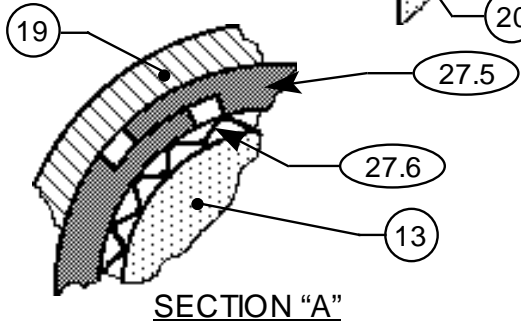
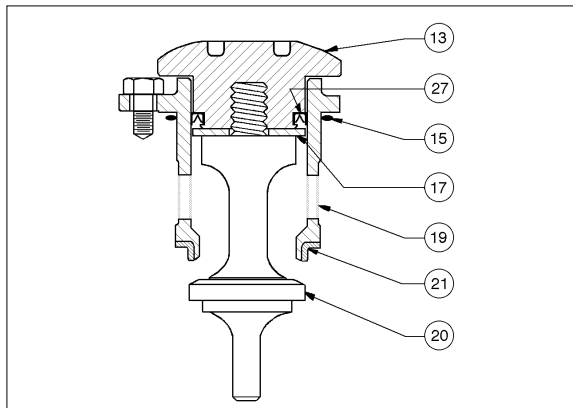
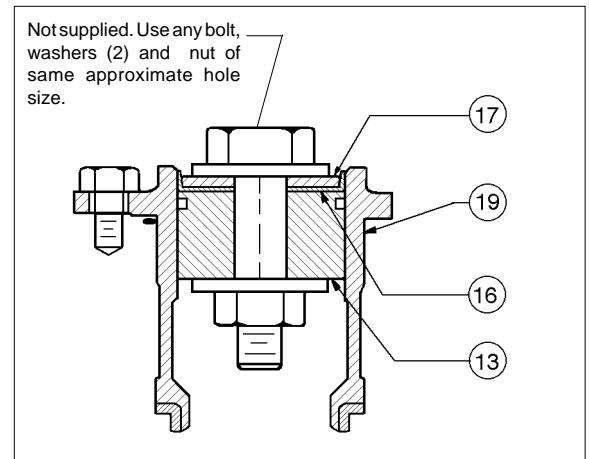

Figure 1: Dynamic Side Seals
Figure 3: Assembled ITA, Metal Diaphragm Construction
Figure 4
A detailed view of the dynamic side seal parts is shown in Figure 1 on the next page.
- e. Remove wiper seal (16), if supplied, from within cage (19).
- f. Remove wiper washer (17.1) or camber adjusting washer (17.2), if supplied, from within cage (19).
- g. Remove o-ring lower stem seal (14.3) from plug (20).
- h. Remove seat ring (21); examine for signs of leakage. If seat ring (21) shows signs of significant leakage, determine if operating conditions of pressure, pressure drop, or temperature are exceeding limits.
2. Units with Metal Diaphragm(s) (See Figure 3):
- 1. When replacing the optional wiper seal (16), the replacement wiper seal (16) is “pre-formed”. It will, however, require reforming. Reform the wiper seal (16) by pressing the temporary assembly parts into the cage (19) backwards as shown in Figure 4. The wiper seal (16) is best left in this position overnight, but a minimum of two (2) hours prior to reassembly.
- 2. After forming the wiper seal, remove parts (13, 16, 17) from cage (19) and disassemble the temporary assembly of Step 1. above.
- 3. Installation of dynamic side seal (27) (See Figure 1):
1. Stretch u-cup seal (27.3) over lower circumference of piston-guide bearing (13), taking care not to "cut" u-cup seal (27.3) on the protruding shelf that is part of the piston-guide bearing's (13) groove. Ensure that the u-cup seal (27.3) is oriented with the center-open-downwards as shown in Figure 1, as the u-cup seal (27.3) depends upon the P1-Inlet Pressure to pressure activate the seal for proper sealing action.
2. Position piston-guide bearing (13) over and into upper end of cage (19) until the cap seal (27.1) edge touches the upper lip of the cage (19). While gently applying force to press the piston-guide bearing (13) into the cage (19), simultaneously use fingers to lightly press the u-cup seal (27.3) inwards into the groove of the piston-guide bearing (13) until the u-cup seal (27.3) "slips into" the cage (19). **DO NOT USE TOOLS, LUBRICANT, OR HEAVY FORCE TO ENGAGE THE U-CUP SEAL (27.3) INTO THE CAGE (19).**
4. Place properly oriented seat ring (21) onto its shoulder at the lower end of cage (19).
- a. Place new o-ring lower stem seal (14.3) into groove of valve plug (20).
- b. Insert valve plug (20) upwards through lower end of cage (19) and through the center hole in piston-guide bearing (13), also capturing camber adjusting washer (17.2), wiper washer (17.1) and wiper seal (16), if supplied. Hold plug (20) and cage (19) together.
- c. Place an oversized nut or stack of washers, the same approximate height of the upper diaphragm pressure plate (8) and the lower diaphragm pusher plate (10), over the upper end of valve plug (20) and temporarily secure with diaphragm lock nut (7), manually tightened. Do **NOT** allow valve plug (20) to rotate against seat ring (21) during tightening.
- a. Insert valve plug (20) upwards through lower end of cage (19) and through the center hole of camber adjusting washer (17.2) or wiper washer (17.1) and wiper seal (16).
- b. Engage valve plug (20) with piston-guide bearing (13) threads and tighten manually as far as possible.
- c. Place ITA into a vise with leaded jaws and grasp at a hub location on the valve plug (20) that is not in the "spindle" zone. (See Figure 3.)
- d. Using soft-jawed locking pliers, soft-jawed pipe wrench, or a special double-posted spanner wrench fitting, tighten piston-guide bearing (13) to valve plug (20) firmly. Do **NOT** allow valve plug (20) to rotate against seat ring (21) during tightening.
1. Place body (23) in a vise.
2. Reinstall internal sensing drilled plug (32) with compatible thread sealant.
3. Insert the lower piston spring (22) into the body (23), if supplied.
4. Fit the o-ring cage seal (15) into its body (23) groove.
5. With the ITA held manually in the closed position, insert ITA into body (23).
6. Properly align all three cage bolt (18) holes as there is only one circumferential location possible for this alignment. If a lower piston spring (22) is used, apply downward force to the top of the cage (19) until the ITA is lowered sufficiently to engage the cage bolts (18) into the body (23). Engage all of the cage bolts (18), then evenly screw in the cage bolts in one-half revolution increments to pull down the ITA, taking care NOT TO "COCK" THE ITA IN THE BODY. Torque the cage bolts (18) to 13-15 ft-lbs.